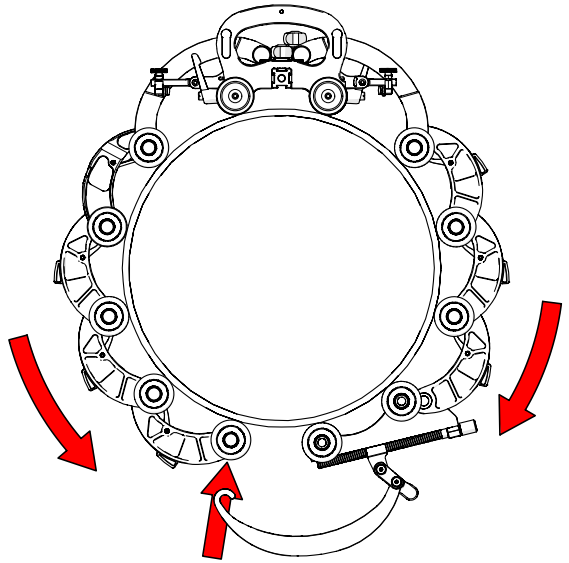

Fig. 108 - Hook QuickLink Buckle to QuickLink
6. Bring the QuickLink Buckle's arm towards the opposite QuickLink. Hook the QuickLink Buckle's arm to the middle axle of the QuickLink (Fig. 108).